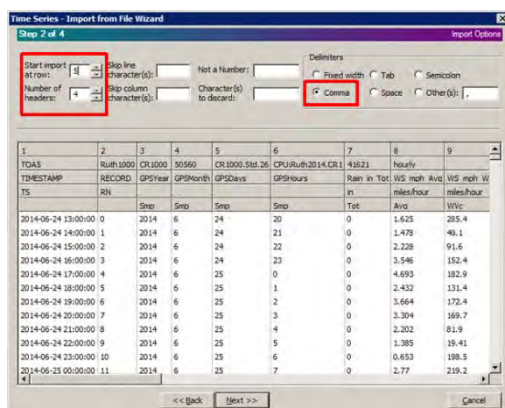

Figure SOP 11-8. Import from File Wizard, step 2.
- b. In step 2 of the wizard, edit the number of headers and define which row holds the first data record (Start import at row:). These values may vary with the data file, but under the current datalogger program there are four headers. Data records begin on the fifth row (Figure SOP 11-8). Confirm that the file is Comma delimited.